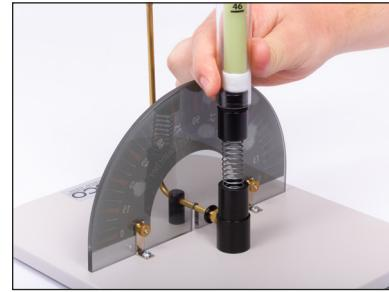

Figure 7
3. Replace the launch cylinder in the launcher base (Figure 7).